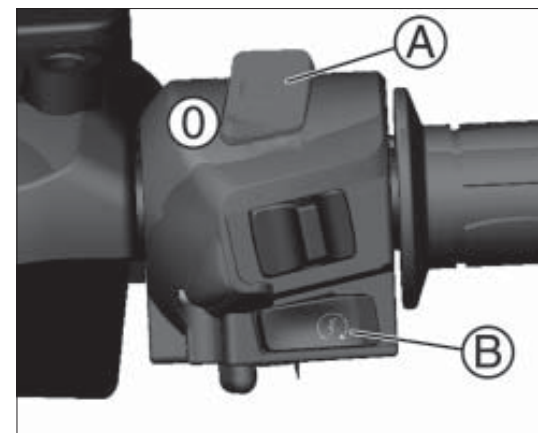

fig. 2
- ensure that button A Fig. 2 is in position 0;
- pull one of the two brake levers on the handlebar (or press the brake pedal) and press the starter button B fig. 2.